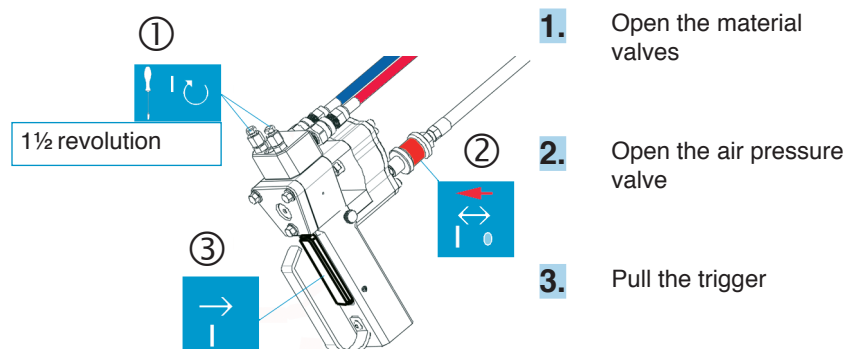

Figure 10.12
- Lubricate the grease nipple regularly with grease, until clean grease appears in the module receptacle, (Figure 10.12).